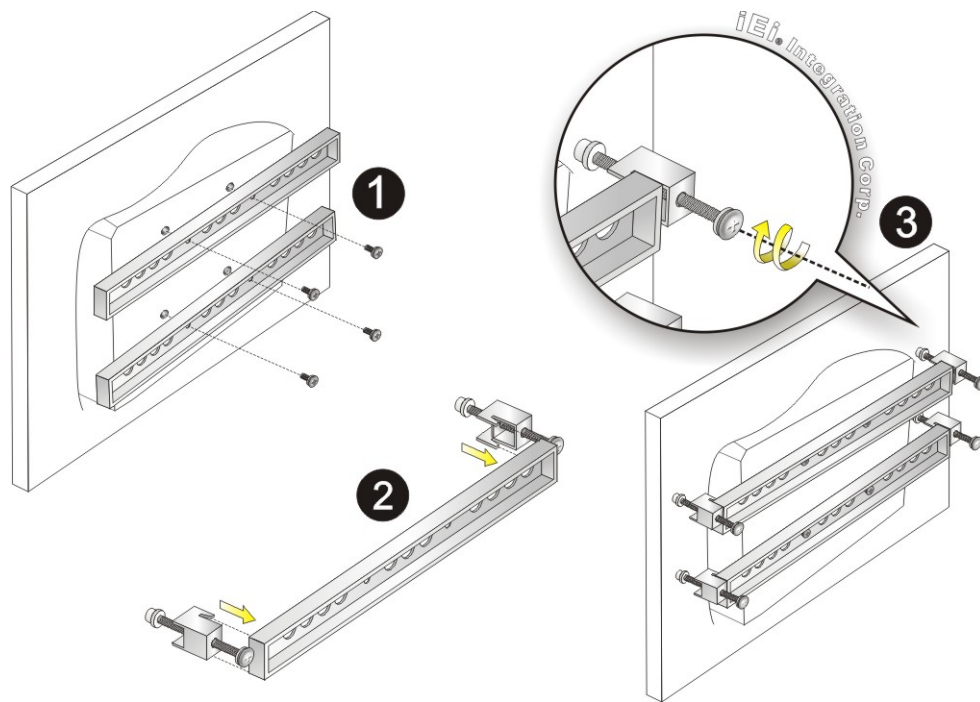

Figure 4-12: Rack Bracket Mounting
- Step 3:** Secure the two rack mounting brackets to the rear of the panel PC by inserting the four retention screws into the VESA mounting holes (**Figure 4-12 ①**).
- Step 4:** Insert the rack mounting clamps into the pre-formed holes along the two edges of the rack mounting brackets (**Figure 4-12 ②**). There are a total of 4 rack mounting clamps for the AFL2-12A-HM65.
- Step 5:** Tighten the screws that pass through the rack mounting clamps until the plastic caps at the front of all the screws are firmly secured to the panel (**Figure 4-12 ③**).